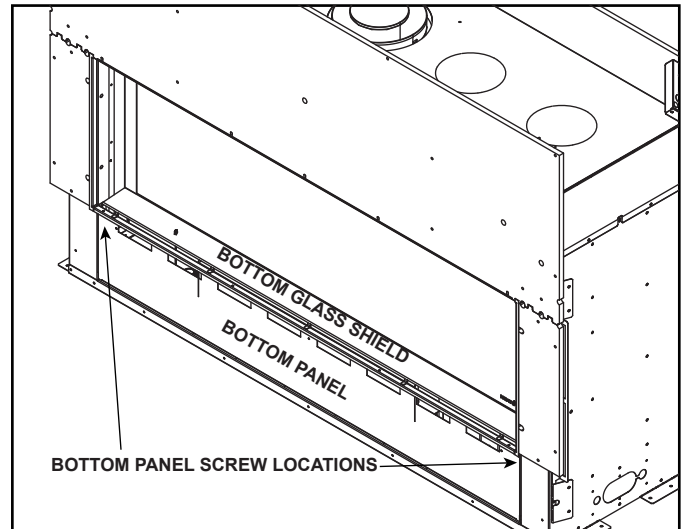

Figure 3.11 Bottom Panel Location
- Remove bottom glass shield from appliance as shown in Figure 3.11.